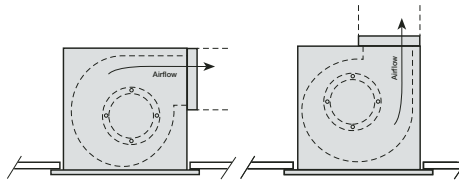

Fig. 2
2. Check ductwork to see if the fan's discharge requires rotation from horizontal to vertical discharge, shown in Fig. 2.